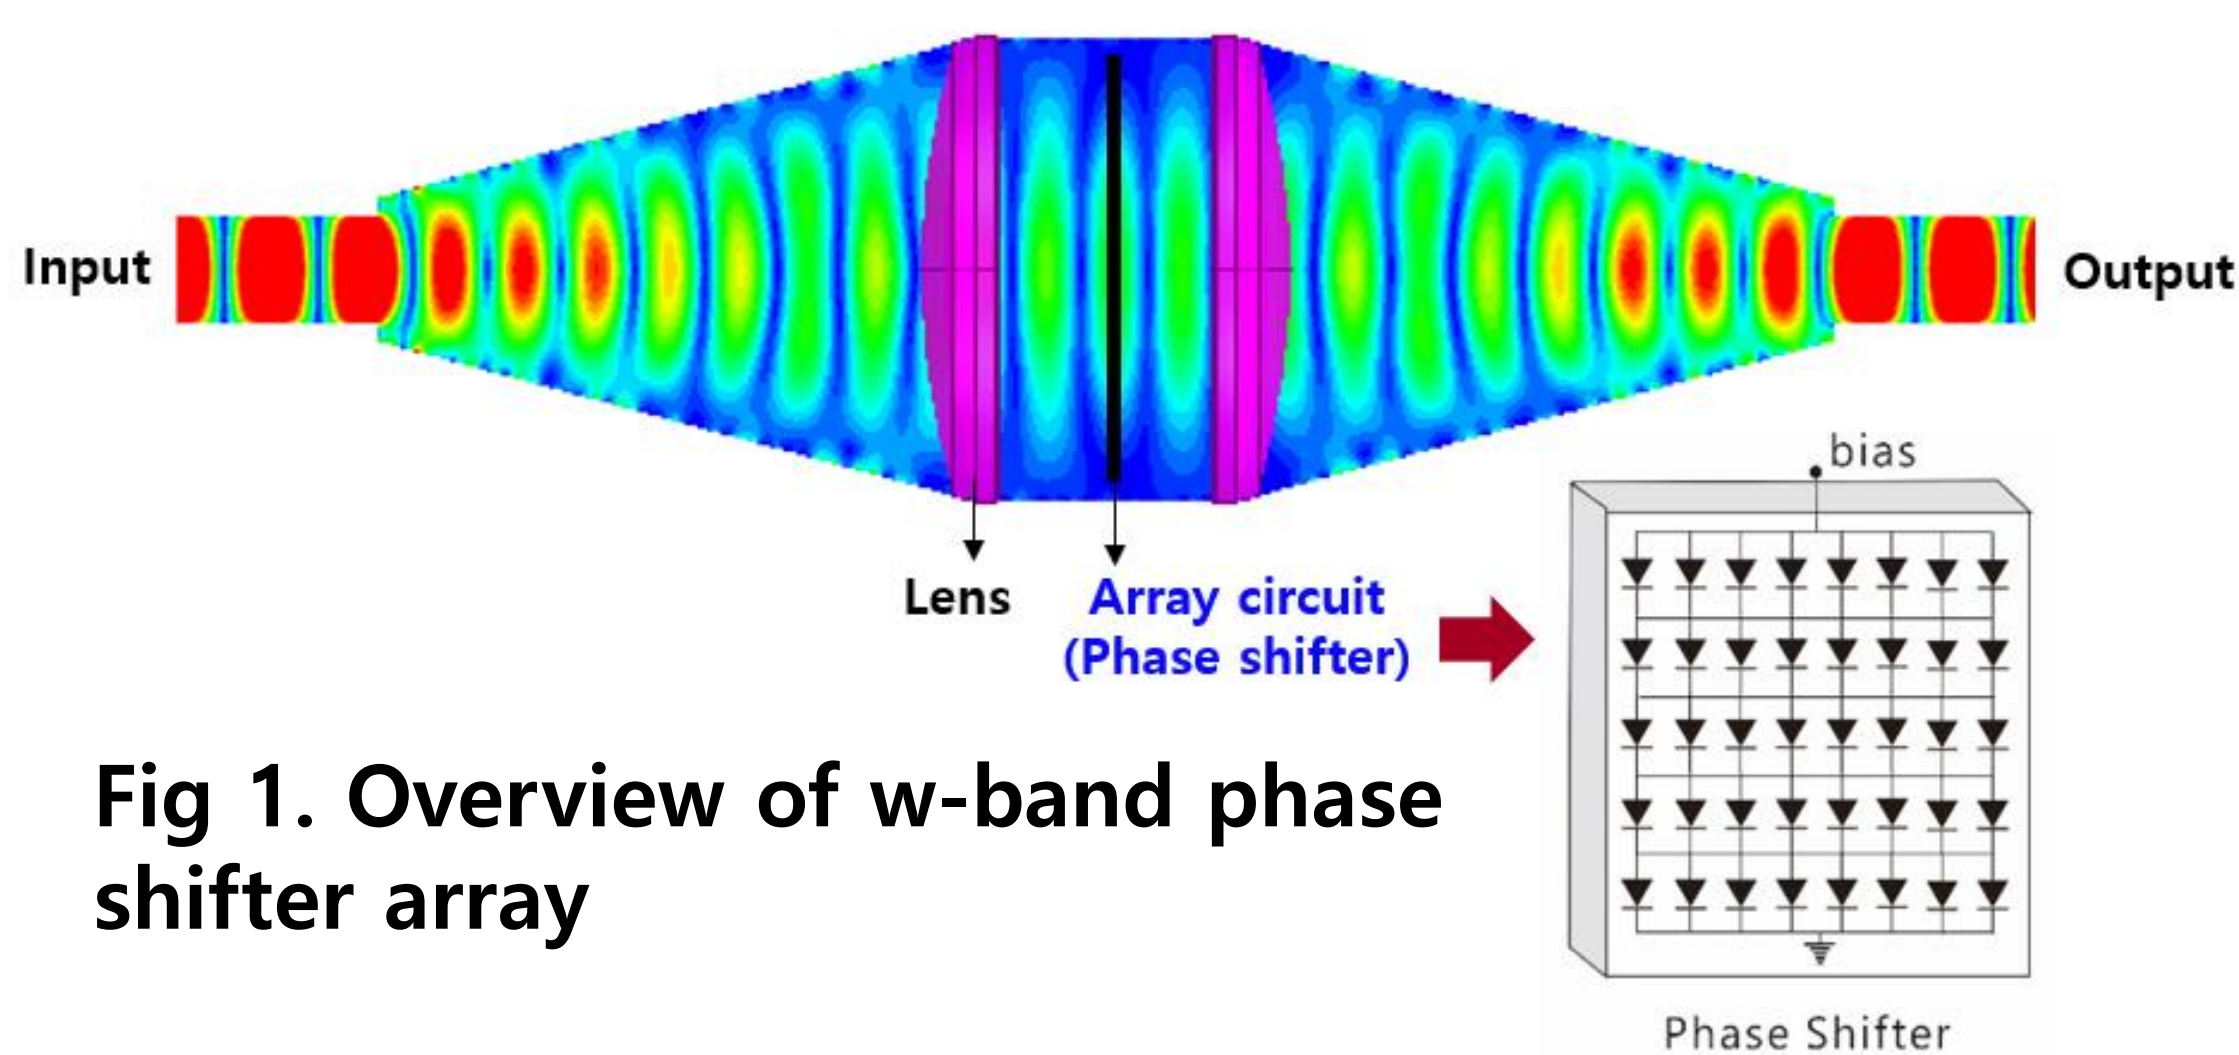

Fig 1. Overview of w-band phase shifter array
- In SS65-2002 process, w-band phase shifter array was designed to confirm single mode wave in over-mode expansion waveguide. The overview is shown in Fig 1.